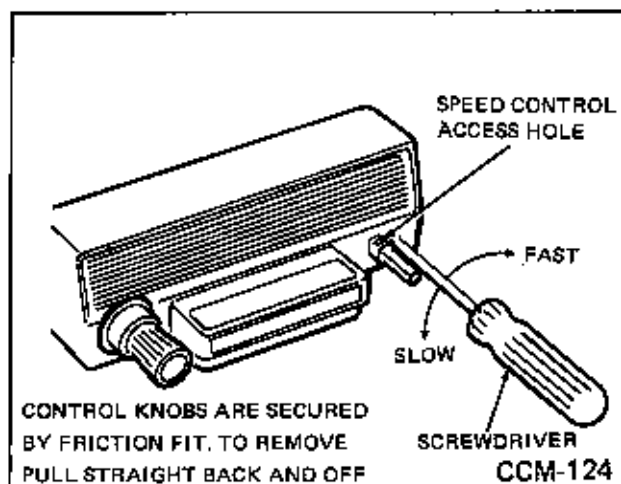

Fig. 119
1. Remove the two right hand knobs from the control shaft on the tape only, or AM radio models (Fig. 119) noting an access hole to the right of the control shaft.